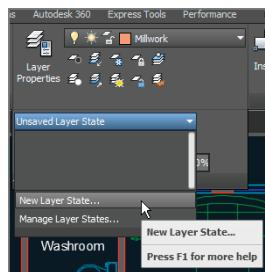

FIGURE 6.17 Saving a new layer state
1. Expand the Layers panel and open the **Unsaved Layer State** drop-down menu. Select **New Layer State** in the drop-down menu (see Figure 6.17).